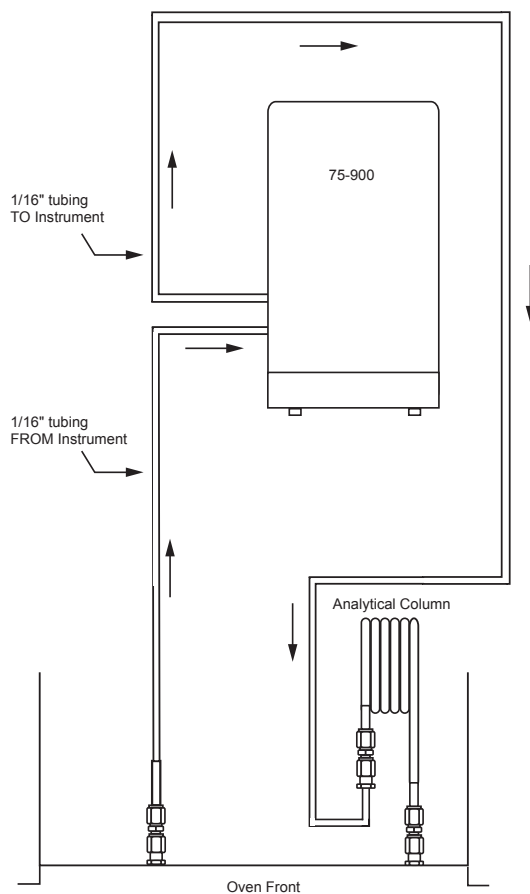

Figure 5: Series 5900 DID GC without Pre-column
B. Instruments Without A Pre-column (Series 5900 DID GC Systems 1, 7, 8, 10, 11, 12, 16, & 17) Refer to Figure 5.